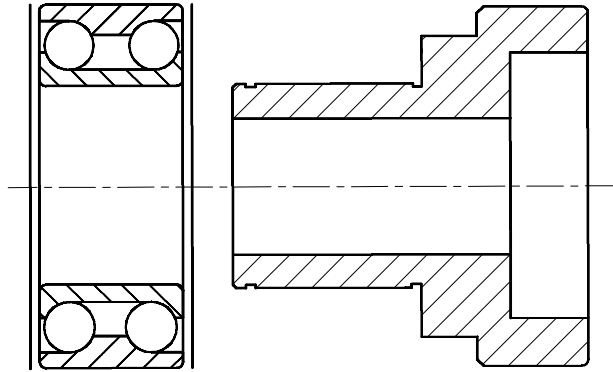

Figure 18-9 After loading the SHAFT drawing, BEARING is automatically updated
- Reload the drawing **BEARING** on the screen. You will notice that the xref drawing **BEARING** is automatically updated (Figure 18-9). This is the most useful feature of the **XREF** command. You could also have inserted the **BEARING** drawing as a block, but if you had updated the **BEARING** drawing, the drawing in which it was inserted would not have been updated automatically.